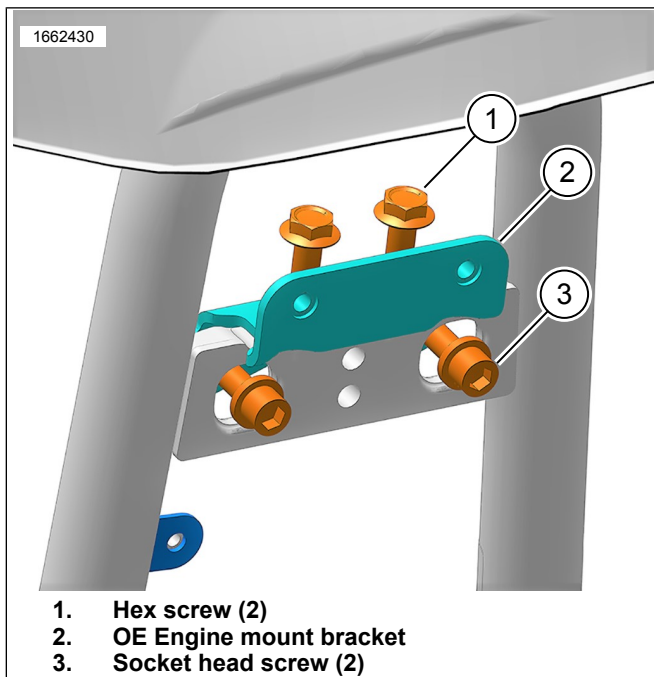

Figure 4. OE Engine Bracket
- a. See Figure 4. Remove hex screws (1).
- b. Remove socket head screws (3).
- c. Remove and discard OE engine mount bracket (2).